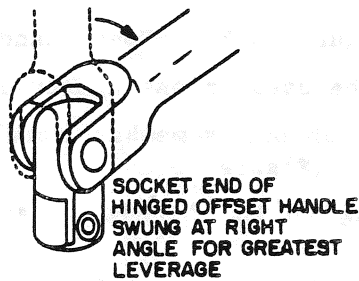

Figure 10.31. Hinged Offset Handle
1. The hinged offset handle is very convenient. To loosen a tight nut the handle can be swung so as to be at a right angle to the socket and thus provide the greatest possible leverage. Then, after the nut is loosened to the point where it turns easily, the handle can be hinged into the vertical position and twisted by the fingers to completely remove the nut from the bolt or stud. (Figure 10.31)